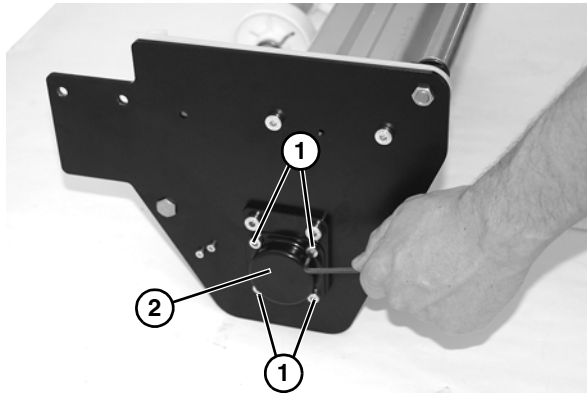

Figure 46
5. On the non-drive side, remove four socket head screws (**Figure 46, item 1**) and cover (**Figure 46, item 2**).